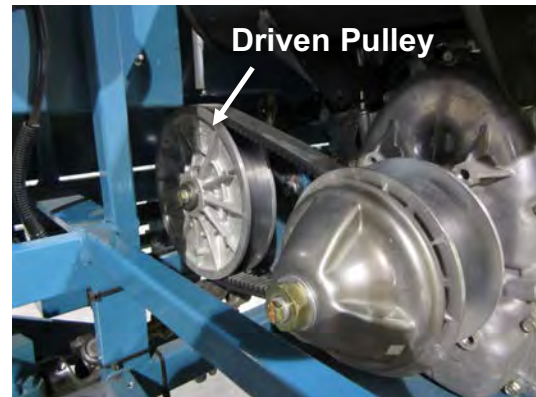

Figure 6
1. Remove belt cover from the machine to expose the drive components. (Figure 6)